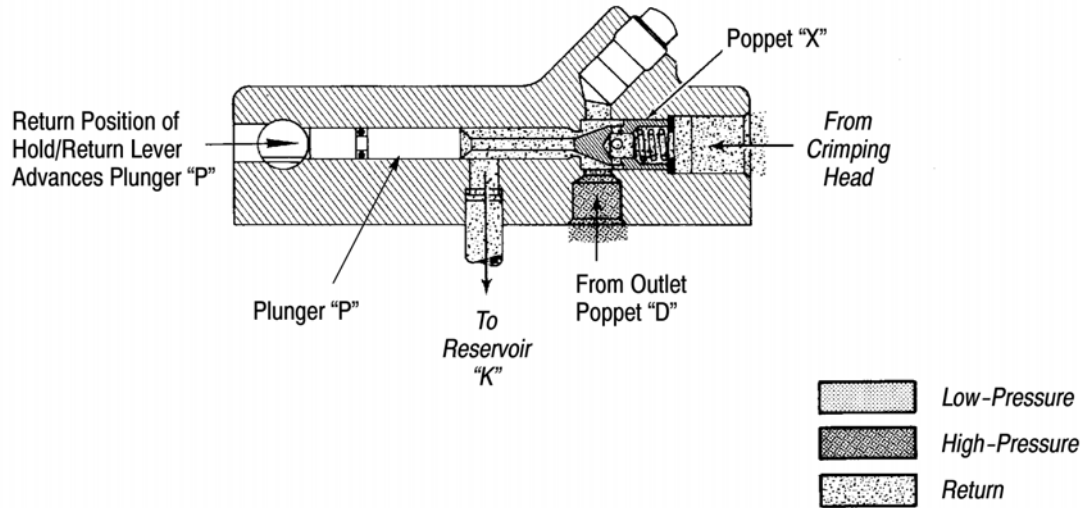

Figure 5
When approximately 1379 kPa [200 psi] is developed (see Detail C of Figure 5), hydraulic fluid from the high-pressure chamber will cause outlet poppet (D) to shift spool (C), allowing low-pressure hydraulic fluid to be discharged into reservoir (K). High-pressure hydraulic fluid continues to flow through high-pressure outlet poppet (G), past outlet poppet (D) and outlet valve (J), and into the crimping head, completing the crimp.
Turning the hold/return lever to the return position advances plunger (P) which opens poppet (X). See Detail D of Figure 5. When poppet (X) opens, hydraulic fluid returns from the crimping head to reservoir (K), for as long as the lever is in the return position.